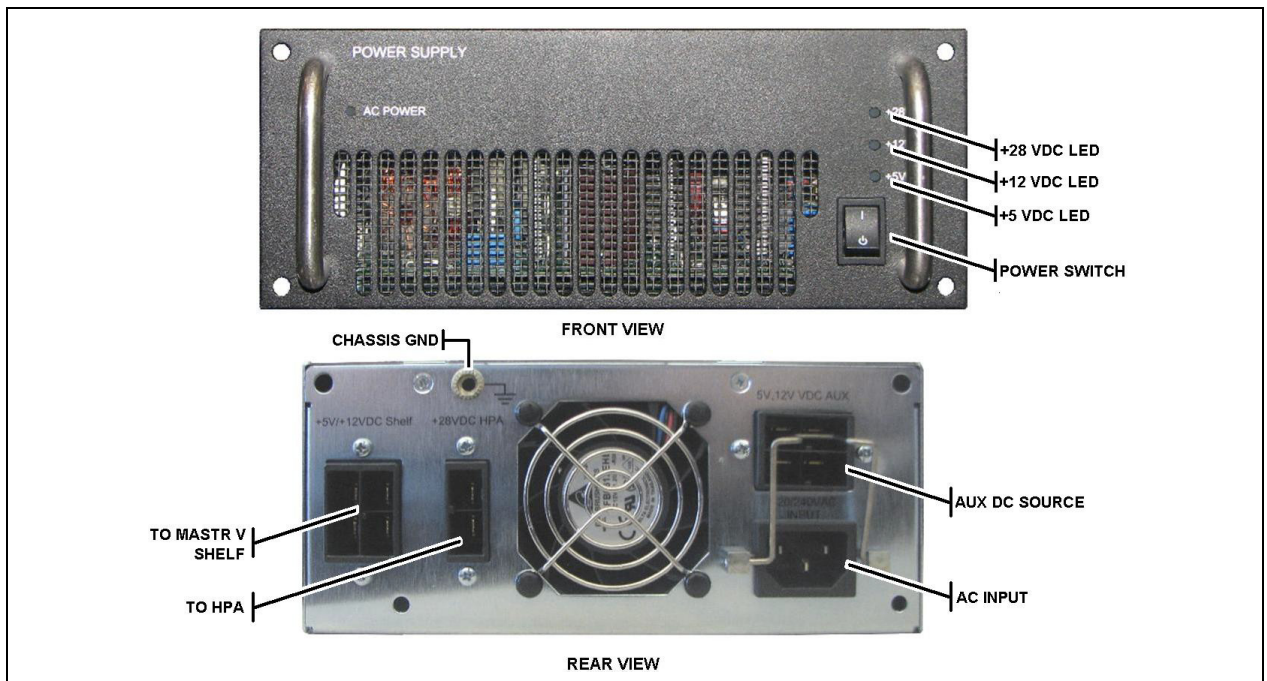

Figure 4-11: Power Supply Module
4.3.6.1 Power Supply Module (PS)
The MASTR V Power Supply (PS) module EA-555011-001 (refer to Figure 4-11) is a continuous duty switching power supply. It operates from an input of 85 VAC to 265 VAC at 47 Hz to 63 Hz (1000 Watts maximum). The PSU provides a maximum of 875 Watts total output power divided among the following three (3) DC outputs: